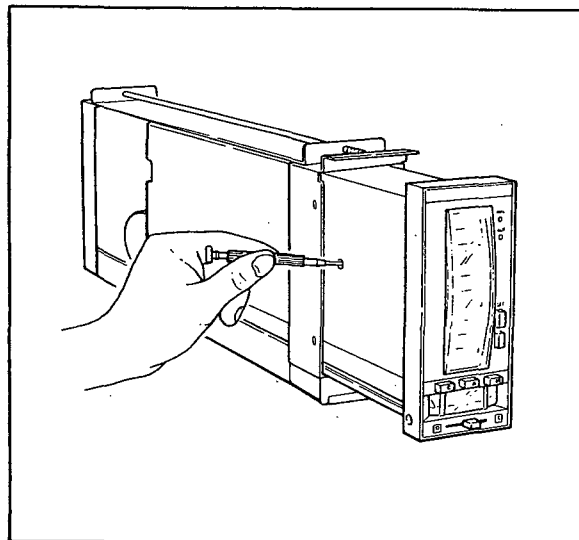

Figure 6-2-1. Zero Adjustment for Process Variable Indicator.
- (1) Apply 3.0V DC from a standard voltage source between input terminals 1 (+) and 2 (-). Refer to section 3-1-2.
- (2) Confirm that the process variable pointer is at the $50\% \pm 0.5\%$ calibration mark on the scale.
- (3) If the indication is not within the specified range, adjust the zero adjustment screw as shown in Figure 6-2-1 until the pointer correctly indicates 50%.
- (4) Set the input signal alternately to 1.0V, 2.0V, 4.0V and 5.0V and ensure that the indicator respectively reads the 0%, 25%, 75% and 100% points using the calibration marks. Allowable tolerance is $\pm 0.5\%$ of span.